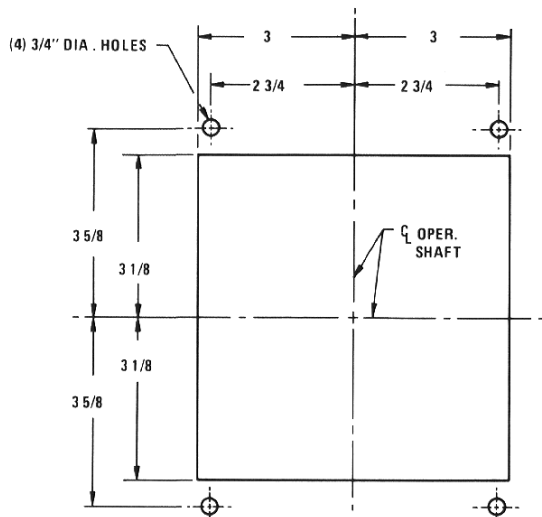

Fig. 6
- b. If it has not already been done, cut opening and drill or punch four 3/4" diameter holes on left side of enclosure per pattern shown in Fig. 6. (The same information appears on direct drive handle Dwg. 422-446).